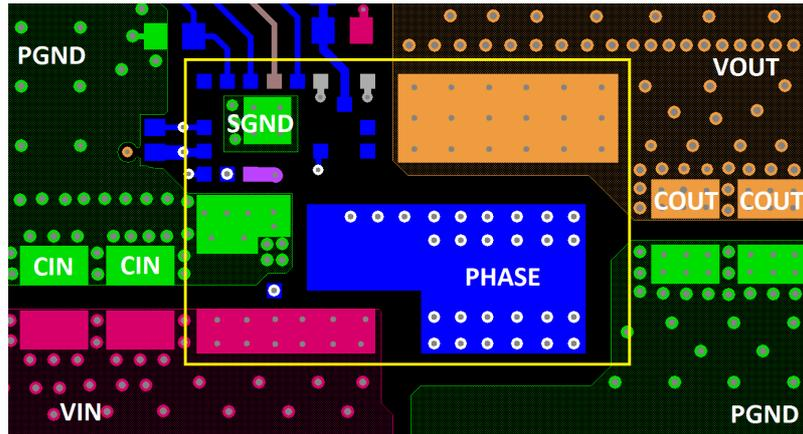

Figure 45. Layout Example - Top Layer
- Place the input capacitors and high frequency decoupling ceramic capacitors between VIN and PGND, as close to the module as possible. The loop formed by the input capacitor, VIN pad, and PGND must be as small as possible to minimize the high frequency noise. Place the output capacitors close to the load. Use short, wide copper planes to connect the output capacitors to the load to avoid any parasitic inductances and resistances. A layout example is shown in Figures 45 and 46 on page 29.